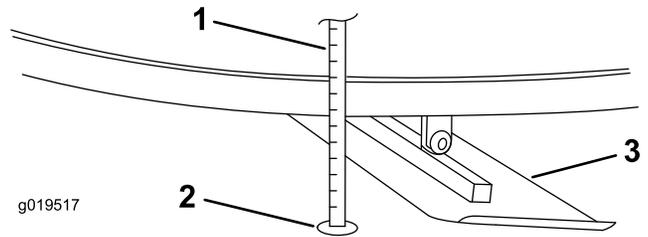

Figure 32
6. Measure the second blade from the spot previously marked on the floor to the second blades leading edge (Figure 32).